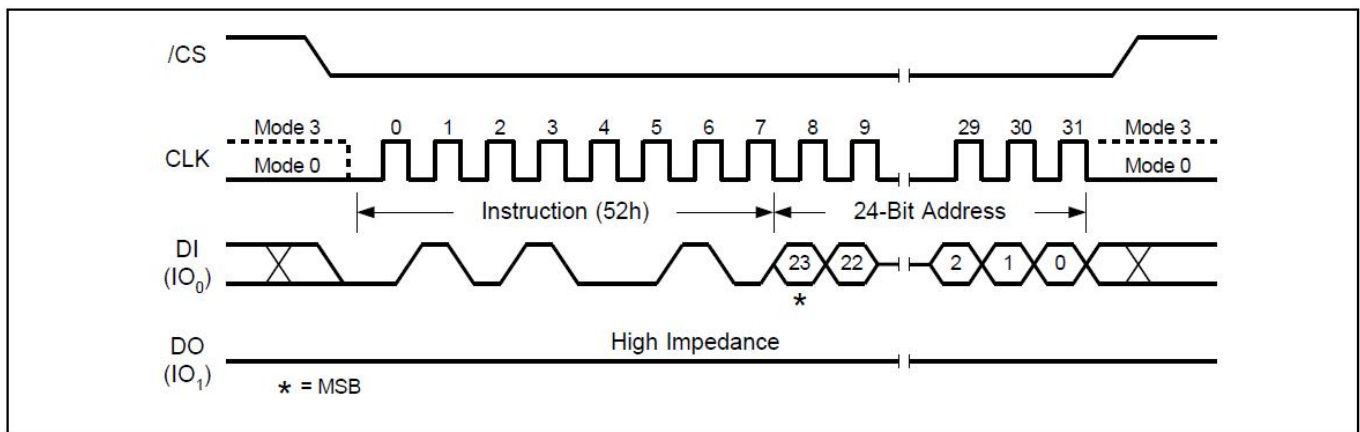

Figure17. 32KB Block Erase Sequence Diagram
The 64KB Block Erase command sequence: CS# goes low → sending 32KB Block Erase command → 3-byte address on DI → CS# goes high. The command sequence is shown in Figure 17. CS# must be driven high after the eighth bit of the last address byte has been latched in; otherwise the 64KB Block Erase (BE) command is not executed. As soon as CS# is driven high, the self-timed Block Erase cycle (whose duration is tSE) is initiated. While the Block Erase cycle is in progress, the Status Register may be read to check the value of the Write in Progress (BUSY) bit. The Write in Progress (BUSY) bit is 1 during the self-timed Block Erase cycle, and is 0 when it is completed. At some unspecified time before the cycle is completed, the Write Enable Latch (WEL) bit is reset. A 64KB Block Erase (BE) command applied to a block which is protected by the Block Protect (SEC, TB, BP2, BP1, and BP0) bits (see Table 1-2) is not executed.